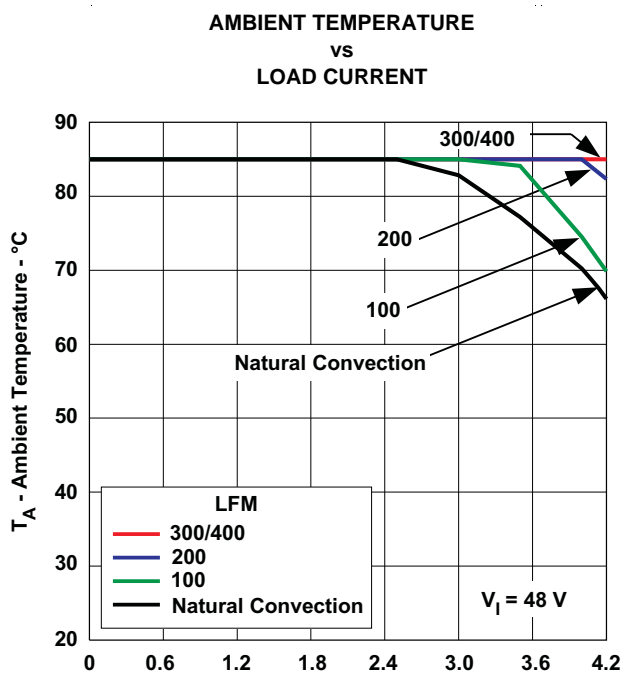

Figure 4.
- (2) The temperature derating curves represent operating conditions at which internal components are at or below manufacturer's maximum rated operating temperature. Derating limits apply to modules soldered directly to a 100-mm × 100-mm, double-sided PCB with 2 oz. copper. For surface mount packages, multiple vias (plated through holes) are required to add thermal paths around the power pins. Please refer to the mechanical specification for more information. Applies to Figure 4.